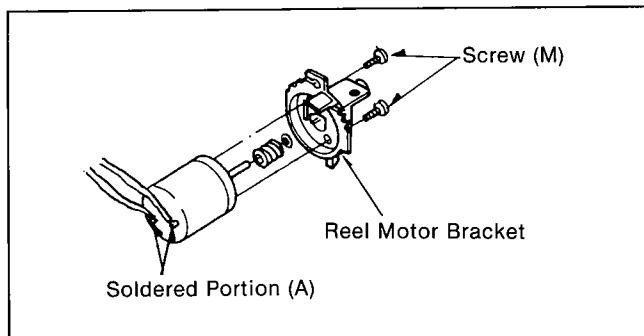

Figure MA22
4. Unsolder 2 solder portion (A) and Reel Motor Bracket Unit from Motor Mount Plate Unit as shown in Figure MA22.
5. Unscrew 2 screw (M) and remove the Rev Motor.